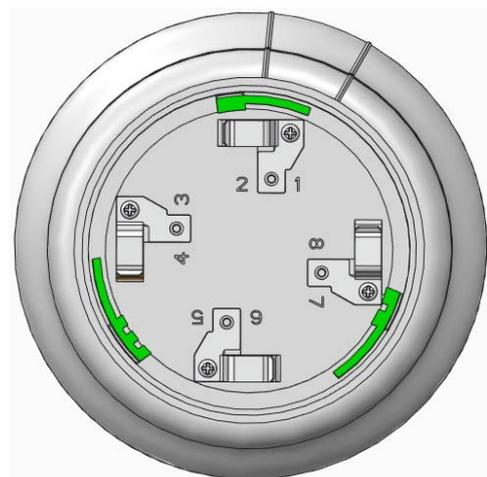
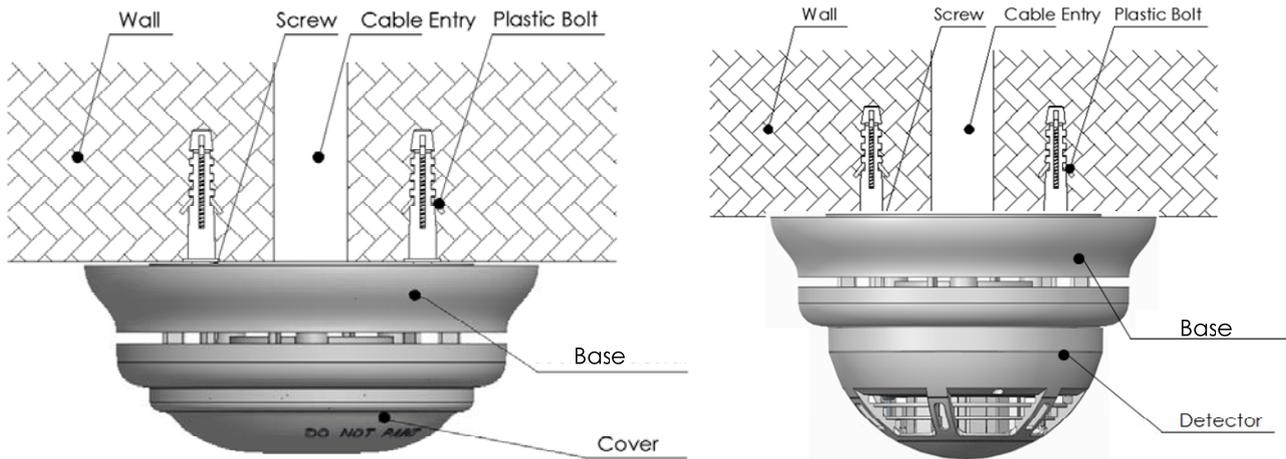

Fig.3 Top structure of the Sounder Base
Fig.4 Addressable Sounder Base with an upper wall cover or a detector
3. The top structure of the Addressable Sounder Base as shown in Figure 3. An upper cover or a detector can be mounted on the Addressable Sounder Base, as shown in Figure 4.